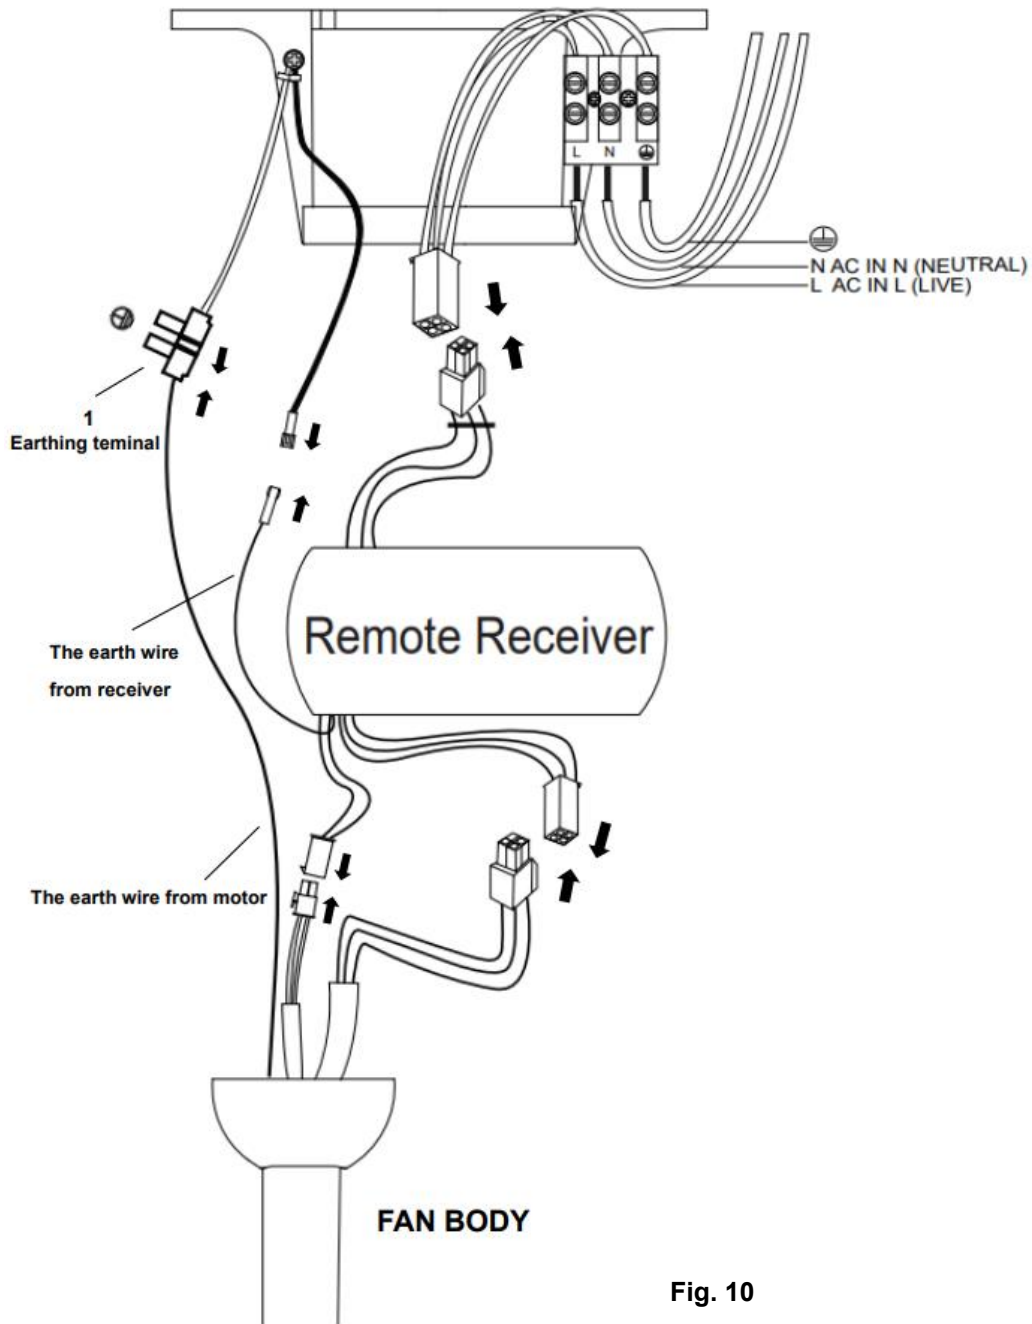

Fig. 10
ELECTRICAL WIRING DIAGRAM THE FAN**PREPARE AND COMPLETE THE ELECTRICAL WIRING --- WIRING DIAGRAM (FIG. 10)**
NOTE: Ensure the motor earth wire is connected to the single earthing terminal block "1" in the diagram below (Fig. 10).
4. Connect the motor earth wire to the single earthing terminal block "1" in the diagram below. (Fig. 10)